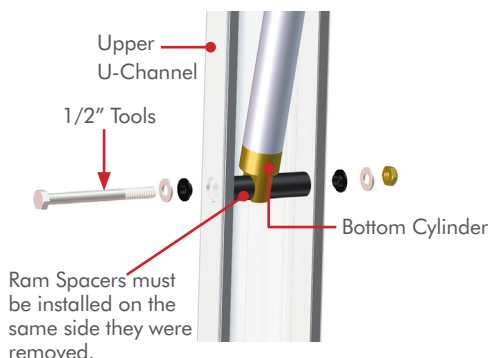

Figure 2
STEP 2 Remove the Hardware that attaches the **Upper Cylinder Fitting** to the U-Channel using a 1/2" Socket and wrench **FIG 2**.